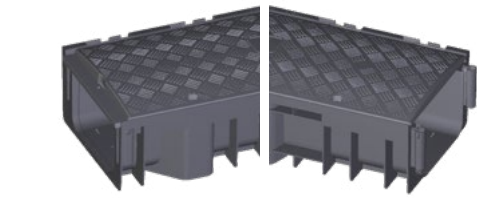
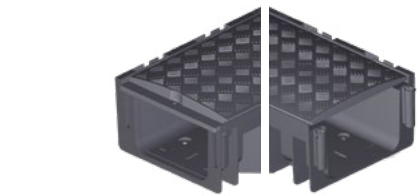

Figure 3: Angular piece for 45° angular element
Figure 4: Angular piece for 90° angular element
6. Align the butt edges of the angular pieces with each other as shown in Figure 3 and Figure 4 to manufacture the required angular element.